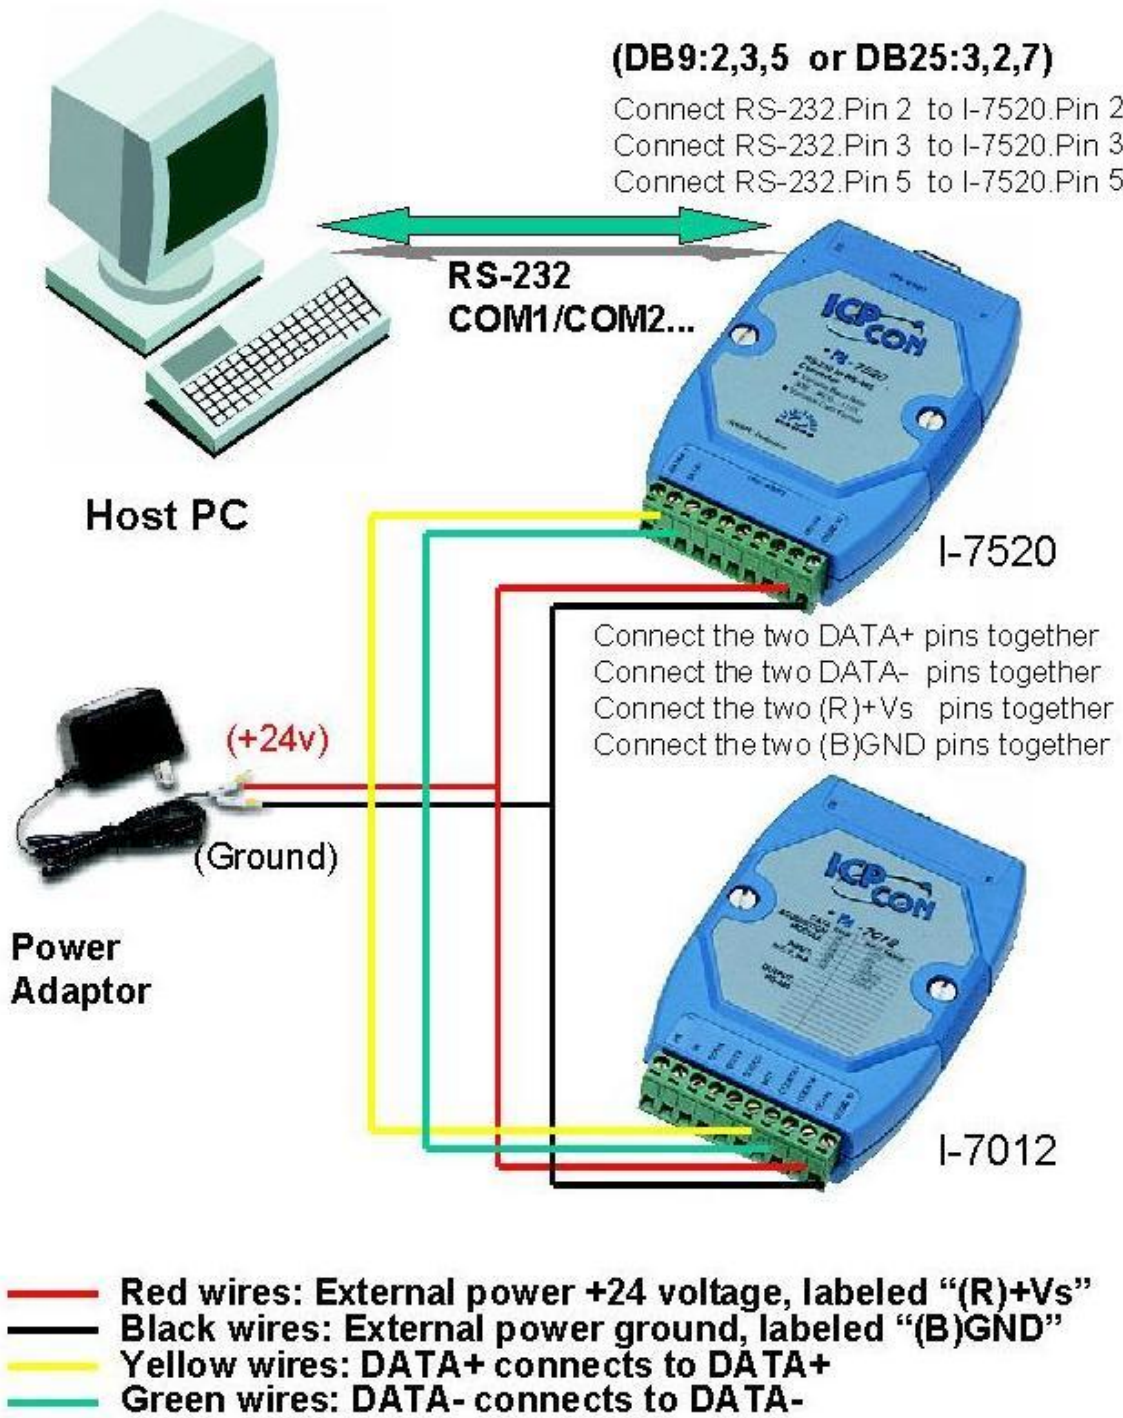

Figure 1-1-1. Connecting the first module
- Connect the first module as in Figure 1-1-1. (If needed, replace the I-7012 module with your own and follow the diagram.) **Please do not connect more than one module at a time.**